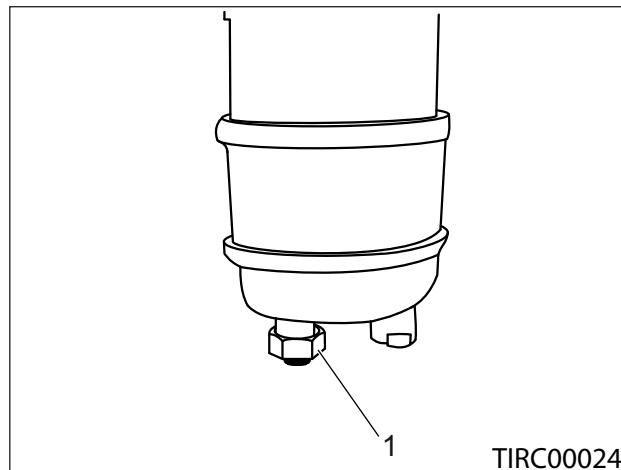

Figure 9.31 - Water Trap
To change the watertrap filter element (Item 2, Ref: Figure 9.31) follow the procedure outlined.
3. Header Screen (ref item 3), Figure 9.31.
4. Scok Header Attachment (ref item 4), Figure 9.31.
5. Sock (ref item 5), Figure 9.31.